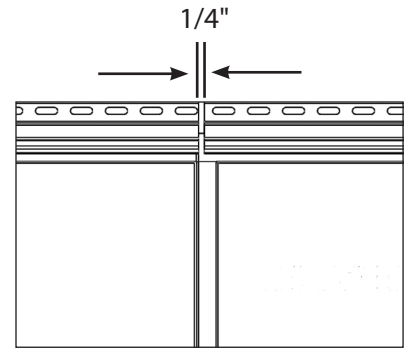

FIGURE 1
2. When lapping panels, leave 1/4" gap at nailing hem (**FIG 1**).